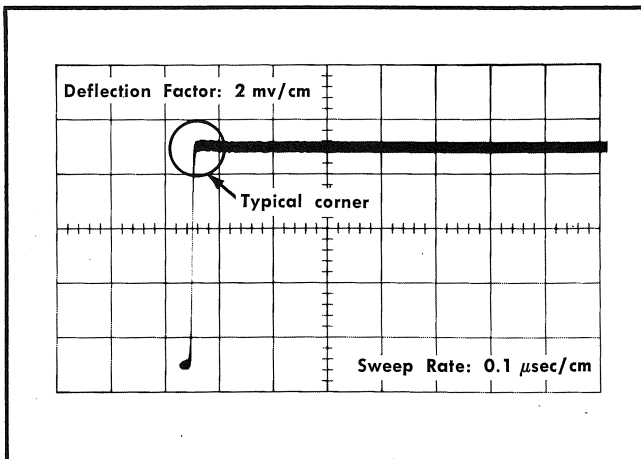

Fig. 5-28. Typical display obtained at 2 mv/cm.
- Check the display for transient response. Typical waveform that can be expected is shown in Fig. 5-28.